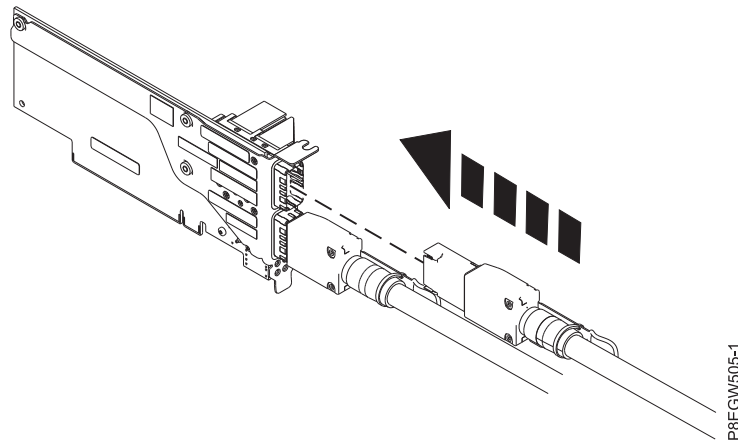

Figure 6. Replacing the expansion drawer cable in the PCIe3 cable adapter on the host system
5. Connect the replacement expansion drawer cable by plugging the cable into the PCIe3 cable adapter port on the host system, as shown in Figure 6.
7. Connect the expansion drawer cable (A) by plugging the cable connector into the I/O module port on the EMX0 PCIe3 expansion drawer, as shown in Figure 6.